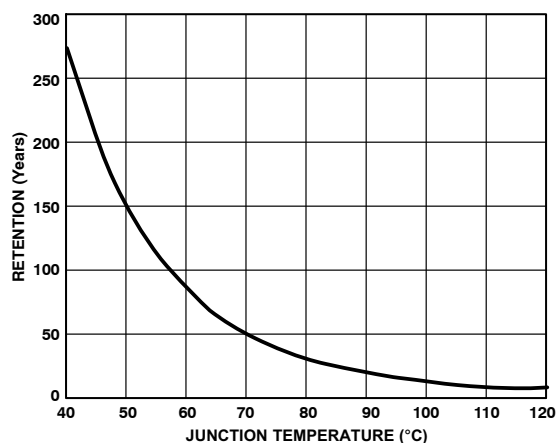

Figure 15. Typical EEPROM Memory Retention
10. Retention lifetime equivalent at junction temperature (T_J) = $55^\circ C$ as per JEDEC Std. 22 method A117. Retention lifetime based on activation energy of 0.6 eV derates with junction temperature as shown in Figure 15.
Retention quantifies the ability of the memory to retain its programmed data over time. The EEPROM in the ADM1026 has been qualified in accordance with the formal JEDEC Retention Lifetime Specification (A117) at a specific junction temperature ($T_J = 55^\circ\text{C}$) to guarantee a minimum of 10 years retention time. As part of this qualification procedure, the EEPROM memory is cycled to its specified endurance limit described above before data retention is characterized. This means that the EEPROM memory is guaranteed to retain its data for its full specified retention lifetime every time the EEPROM is reprogrammed. Note that retention lifetime based on an activation energy of 0.6 V derates with T_J , as shown in Figure 15.